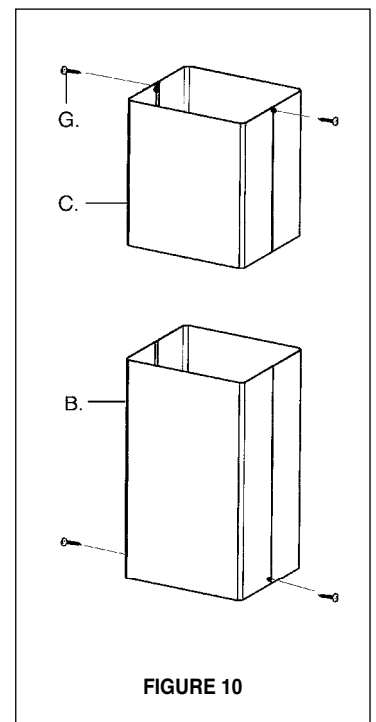

FIGURE 10
1. The UPPER CHIMNEY COVER (C in FIGURE 10) attaches using two screws provided (G in FIGURE 10). If using the High Ceiling Chimney Kit, use the UPPER CHIMNEY COVER supplied with the kit. Slide up and attach the UPPER CHIMNEY COVER.
3. The LOWER CHIMNEY COVER (B in FIGURE 10) attaches using two screws provided (G in FIGURE 10). Install the LOWER CHIMNEY COVER by sliding it up over the support and the UPPER CHIMNEY COVER.